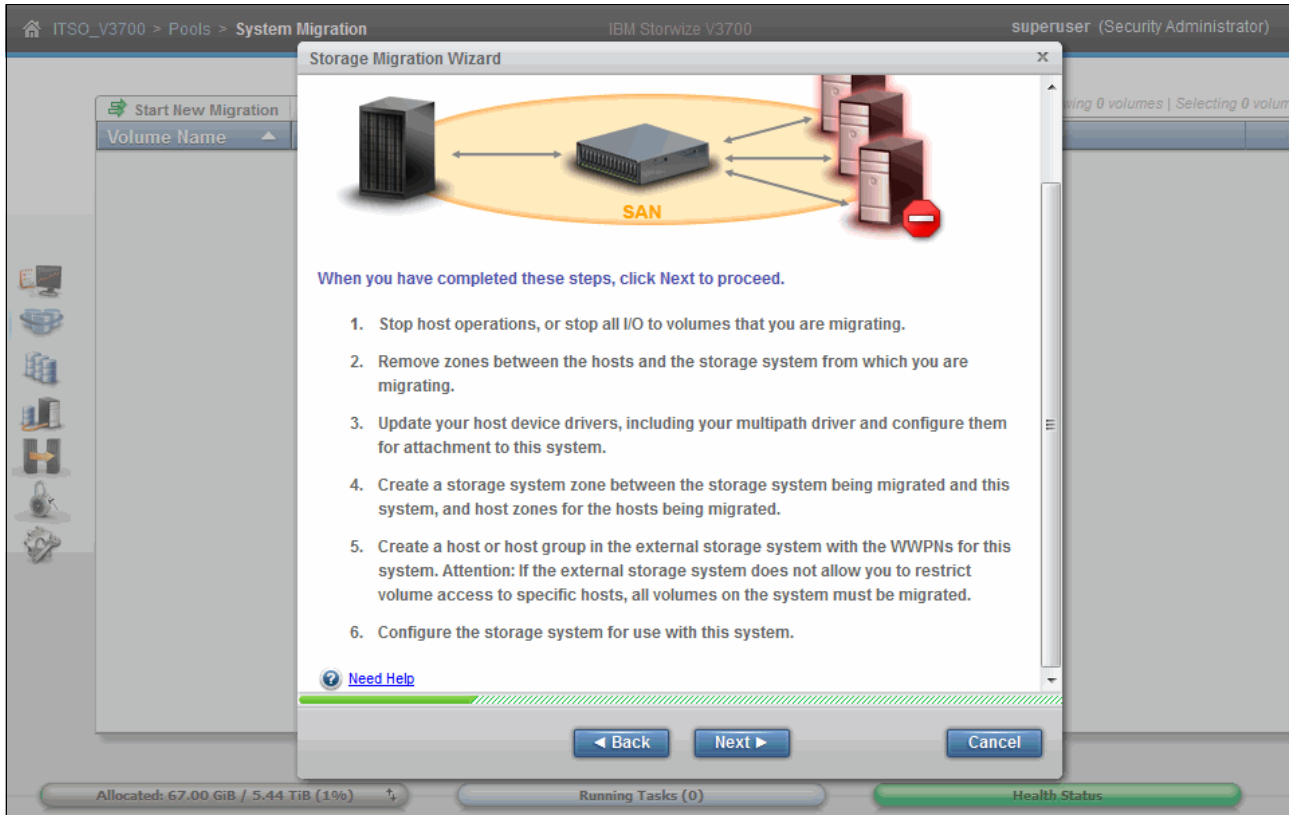

Figure 6-19 Instructions to prepare the migration environment: FC attached storage
2. Slightly different instructions are given if only FC external storage is attached, or if you have chosen an FC-attached migration, as shown in Figure 6-19.